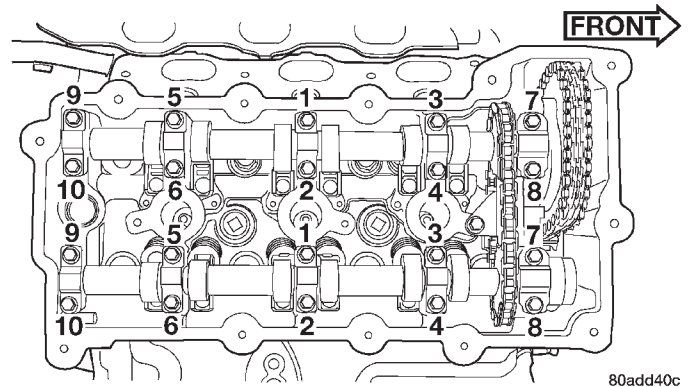

Fig. 48 Camshaft Bearing Cap Tightening Sequence
(8) Rotate crankshaft until crankshaft sprocket timing mark aligns with timing mark on oil pump housing.
(9) Remove primary timing chain. Refer to procedure outlined in this section.
(10) Remove camshaft bearing caps **gradually** in reverse sequence of installation (Fig. 48).
(11) Remove camshafts from cylinder head.